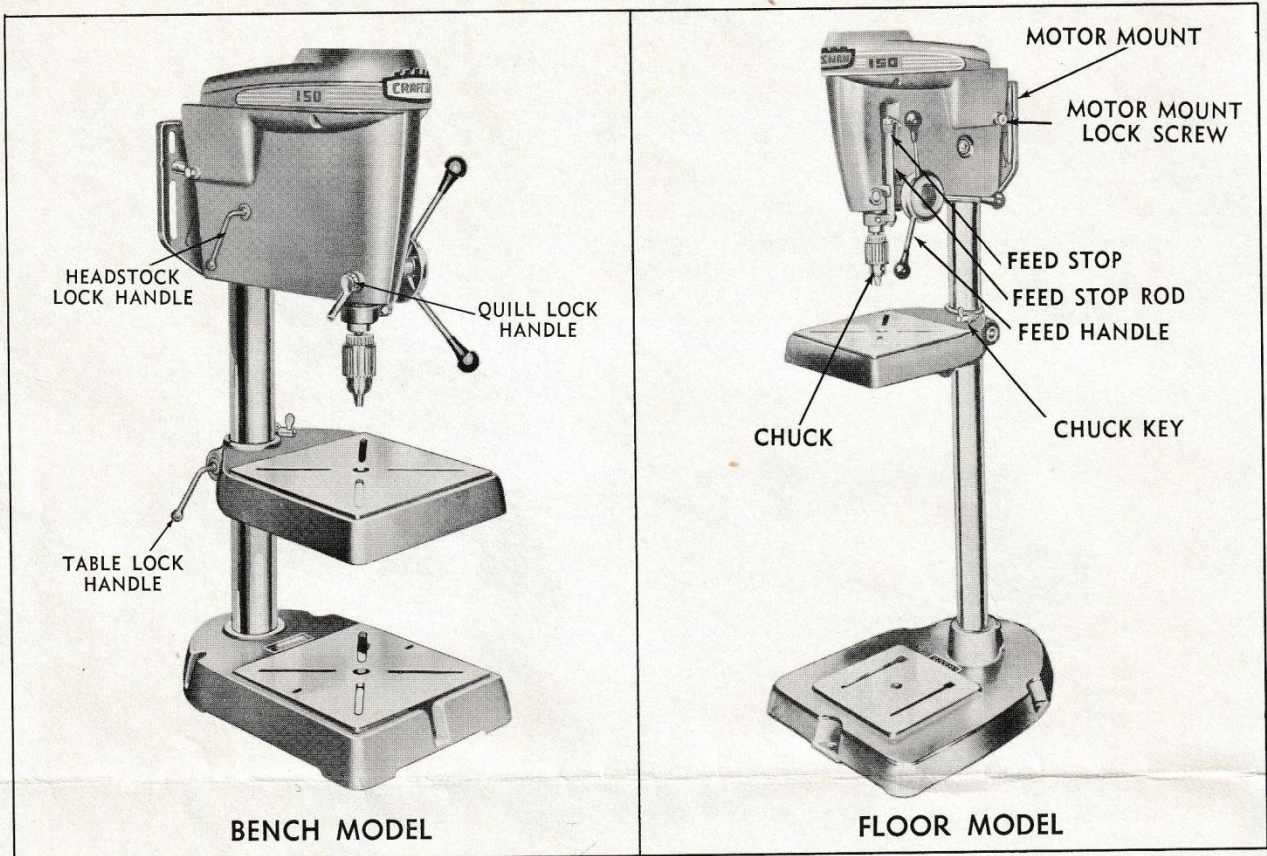

FIGURE 1
Place **feed handles** on tool as shown in Fig. 1.
Place the chuck key in the hole provided at side of table support, see Fig. 1.
To install motor loosen the **motor mount lock screws**, Fig. 1, until the **motor mount** may be removed. Fasten the motor to the motor mount with the bolts, nuts, and washers provided so that when motor mount is reinstalled on the tool, the larger portion of the mount will be down. For convenience, if your motor has a switch, and rotation will be correct, place motor on motor mount so that the switch is on the left side. **Direction of rotation of the spindle must be clockwise when viewed from pulley end of spindle.**
To change the locked position of table lock handle or headstock lock handle (Fig. 1), remove handle and rotate table lock, item 66, or headstock lock, item 51, 180°. Re-insert and tighten lock handle.
The **Quill Lock Handle**, (Fig. 1) for greatest ease of operation should point **down** when **locked**. To change the position of the handle, loosen the set screw, remove handle from hex head screw and rotate to correct position. Replace handle and tighten set screw.